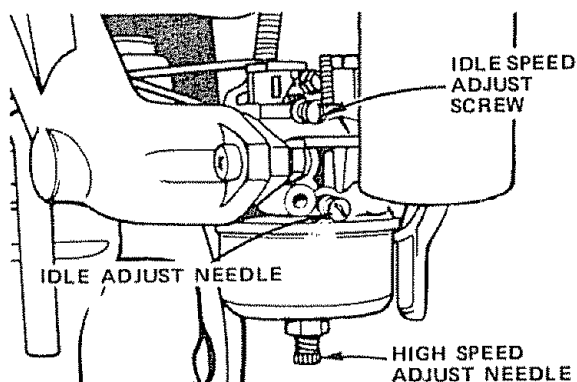

FIGURE 12
1. Close High Speed Adjust Needle (Fig. 12) by turning clockwise (↻). Close finger tight ONLY. Forcing may cause damage.
2. Open High Speed Adjust Needle (Fig. 12) by turning 1 - 1/2 turns counterclockwise (↺).